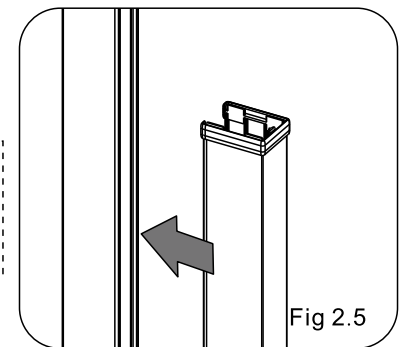

Fig 2.5
5. Push the **Jamb [15]** installed with **C Strip [14]** to the shower panels until it stops. (Fig 2.5)